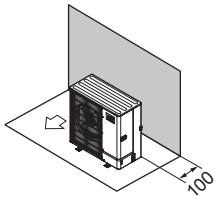

Fig. 1-22
- ① Obstacles at rear only (Fig. 1-22)